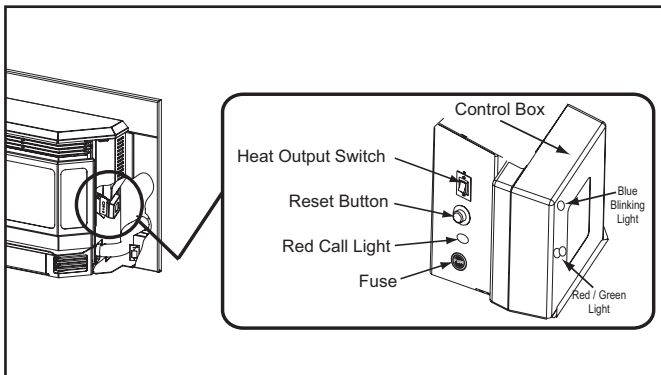

Figure 28.1
The appliance is like most modern furnaces; when the thermostat calls for heat, your appliance will automatically light and deliver heat. When the room is up to temperature and the thermostat is satisfied, the red call light will shut off and the appliance will shut down. **Figure 28.1.**
3. Locate the heat output control switch on the right side behind the right side panel. Set to the HIGH setting and then adjust the thermostat to its highest setting. The red call light will be on which is located on the right side behind the right side panel. This indicates the thermostat is calling for heat. **Figure 28.1.**